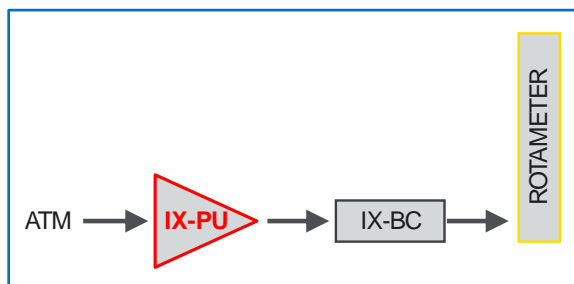

Figure 1. Layout for pushing configuration of pump performance testing
- If the value is too high, please review the layout to make sure a buffer is between the pump and rotameter (Figure 1)